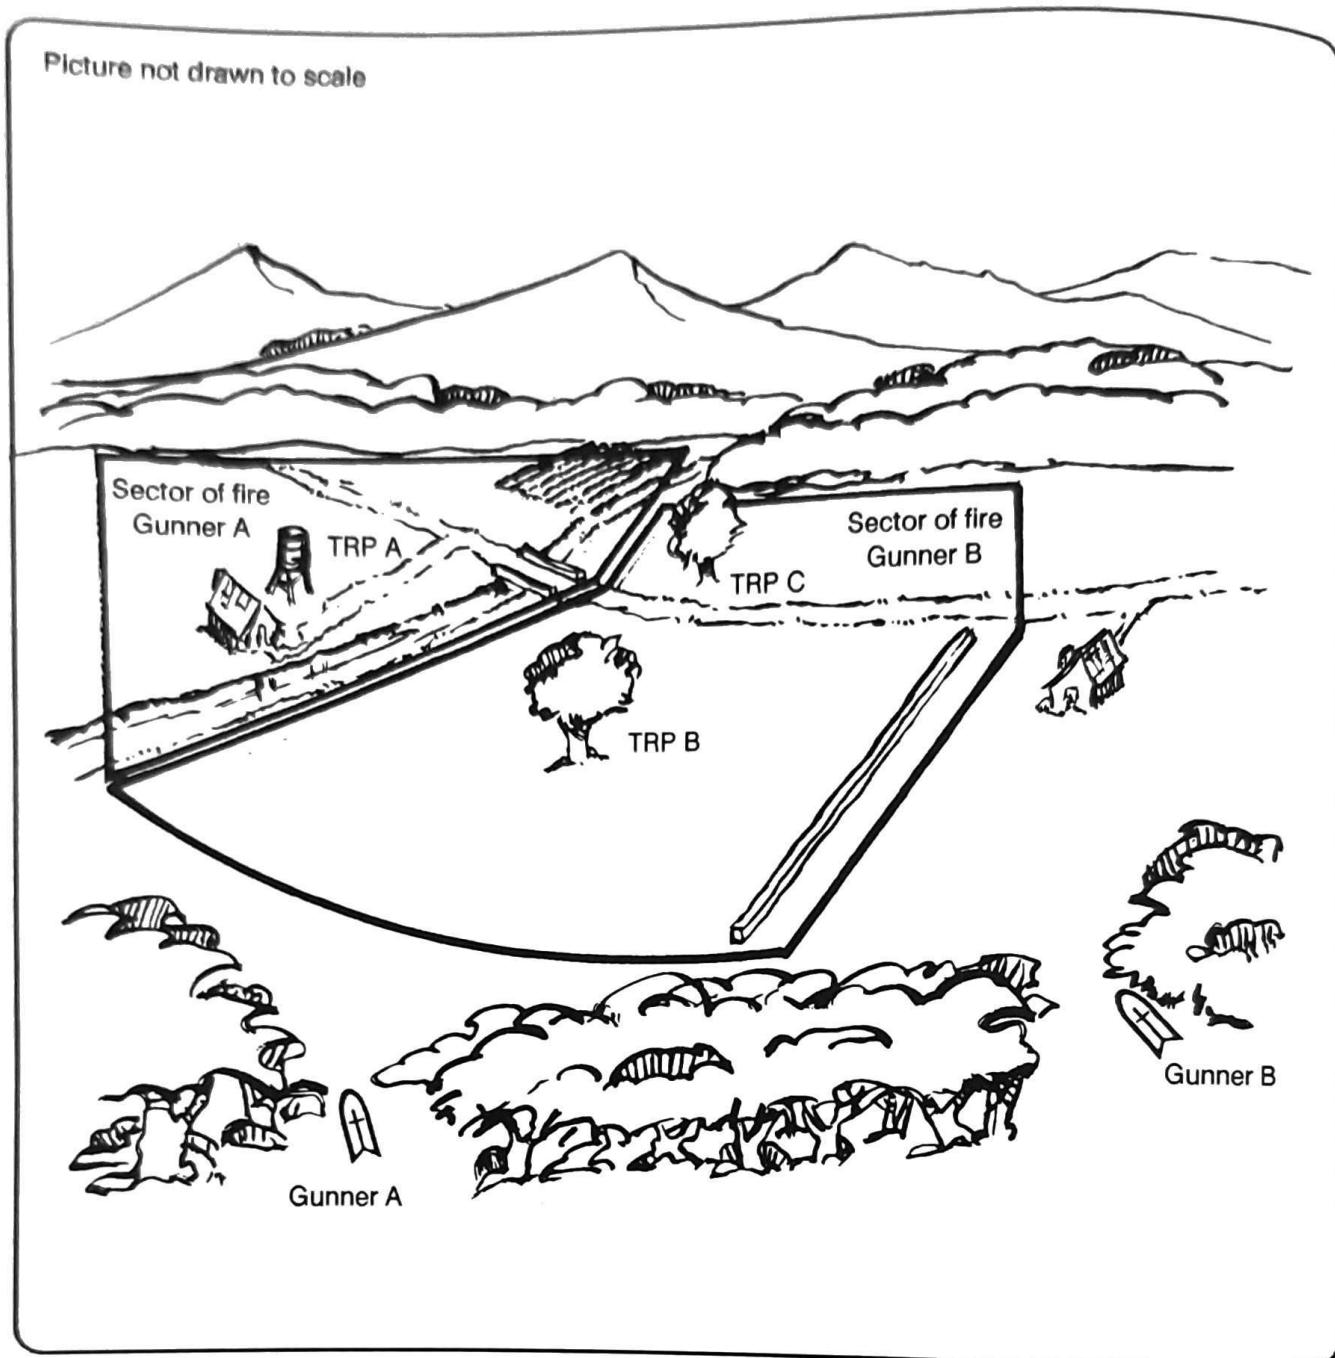

Figure 3-23. Sector of fire.
b. Sector of Fire. A sector of fire is an area, limited by boundaries, assigned to a unit or a weapon to cover by fire. (See Figure 3-23.) A gunner needs to know how many TRPs are in and around his sector and where they are located, if other sectors need assistance.